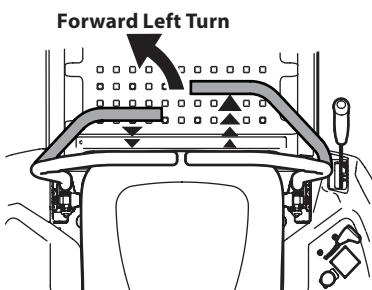

Figure 24
- To turn to the left, move the left drive control lever rearward of the right drive control lever. See Figure 24.